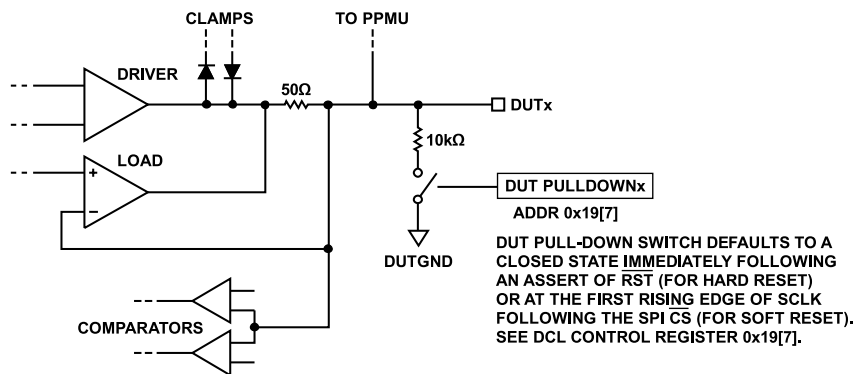

Figure 114. DUTx to V_{DUTGND} Soft Connect Detail
- ▶ Soft connect the DUT0 and DUT1 pins to V_{DUTGND} (see Figure 114)